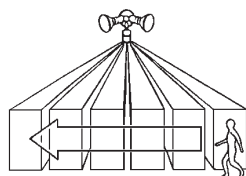

Fig. 1
- Locate fixture so motion moves across detection zone (Fig.1).